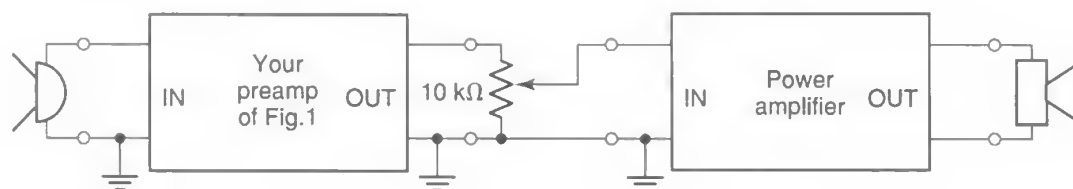

Fig. 3
9. You will now add a *volume control* to your sound system. To do so, you need to take the output of the preamplifier, and *divide down* its voltage by a factor that can be adjustable. The resulting voltage should then be fed to the input of the power amp. You can do this by using a 10 kΩ potentiometer as a variable voltage divider, as shown in Fig. 3. (A 100 kΩ potentiometer is also acceptable; why is the exact value of the potentiometer resistance not critical?) Try your new system by speaking into the microphone and varying the potentiometer. Does your volume control work?